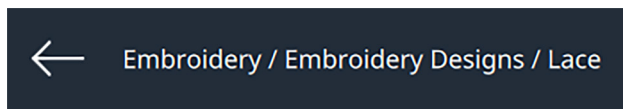

Fig. 4
3. Select the Lace folder. Notice the path in the Navigation Bar that shows the folder layers you are in (Fig. 4).